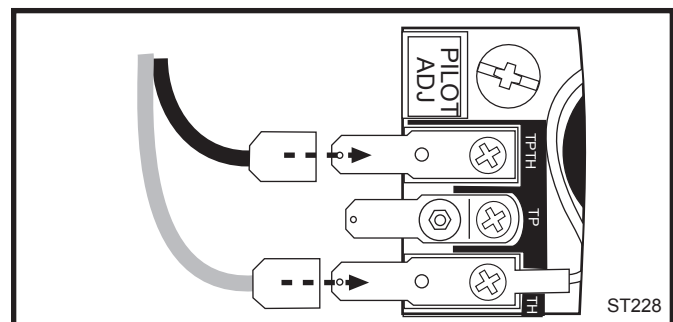

Fig. 51 Attach switch wires to valve.
3. Attach wires to valve terminals. (Fig. 51)
2. Connect the thermostat wires to the valve. (Fig. 51)